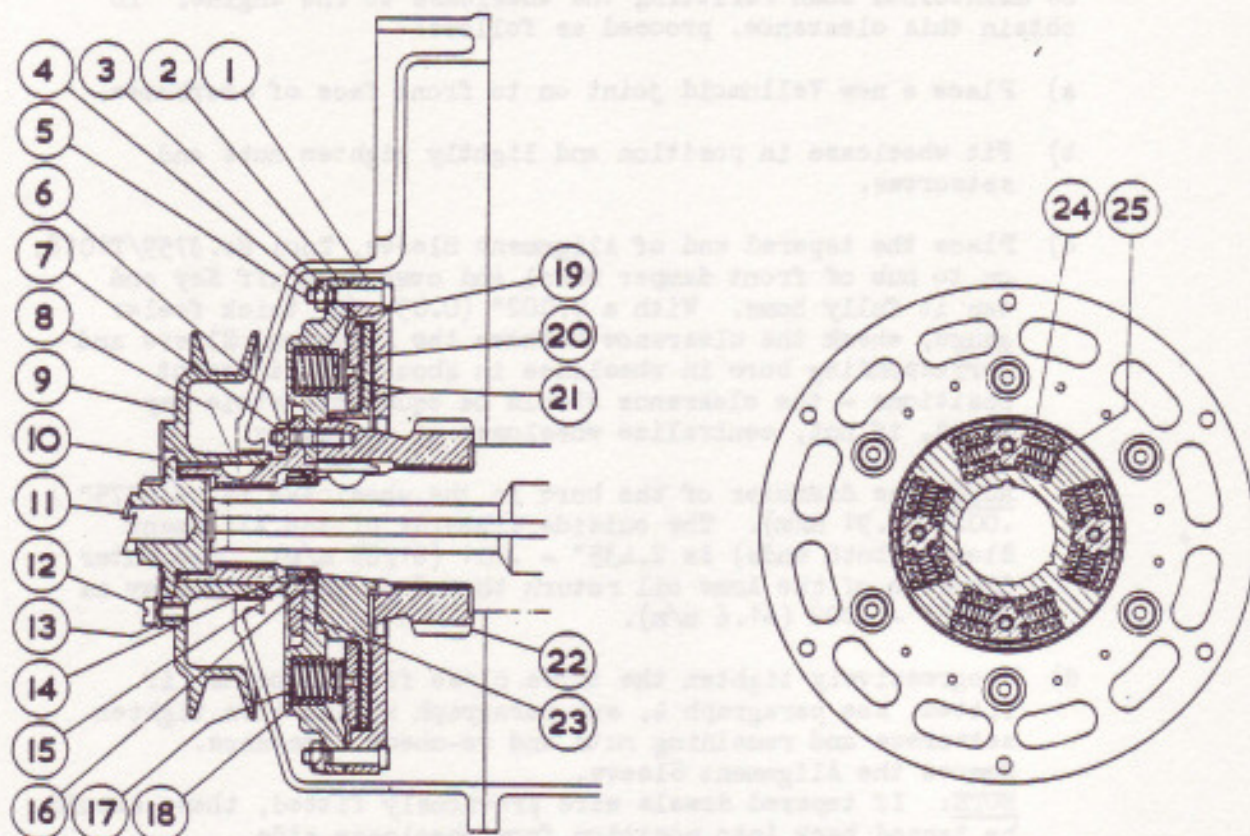

FIG. 28. SECTION - SPRING DRIVE ("BENCH" TYPE).
For the description, refer to paragraph 1. It will be observed upon reference to Fig. 28, that in order to remove the serrated nut(14) retaining the spring drive to the crankshaft, it is not necessary to first remove the front damper wheel (2) as in the case of the "Wraith" type. The serrated nut is exposed by removing the hub (23) secured by four nuts.
- (ii) Remove star locking plate (10 Figs. 28 & 29) from fan pulley.
- (iii) With box spanner 1649/T3, unscrew starting dog (11) from hub (23) and pull off the fan pulley - if necessary, ease it back with two small levers.
- (v) Remove the four nuts (7 Fig. 28) and withdraw hub.
- (ii) Bend back tabs of lockwasher (15 Fig.28), and with the serrated spanner 3759/T1007, remove nut 14, (R.H. thread) from crankshaft. Remove the plain washer (16).
- (vi) Carefully place the spring drive on the mandril (see "NOTE" below) and over the Woodruff key. Remove the six nuts (4) from rim of damper wheels, but in order to prevent the rear damper wheel (1) from slipping downwards, hold it upwards prior to removing all the nuts. Remove the front damper wheel (2), taking care not to lose any of the six damping springs (18) and adjusting washers (17) if the latter are fitted.
The recommended slipping load of the damper wheels is 14-lbs. + 1-lb. (6.35 Kgs) applied at a radial distance of $17\frac{1}{2}$ " (44.45 cms). The load is checked with the spring drive assembled, but less the driving springs (24 & 25 Fig. 28).
The procedure of preparing, fitting and ironing the friction washers and the checking of the damper slipping load is basically the same as paragraph 8. Note should be taken of the fact that it will be necessary to temporarily fit the hub (23 Fig.28) securing it with two nuts placed diametrically opposite to one another prior to ironing the washers and the subsequent checking of the slipping load.